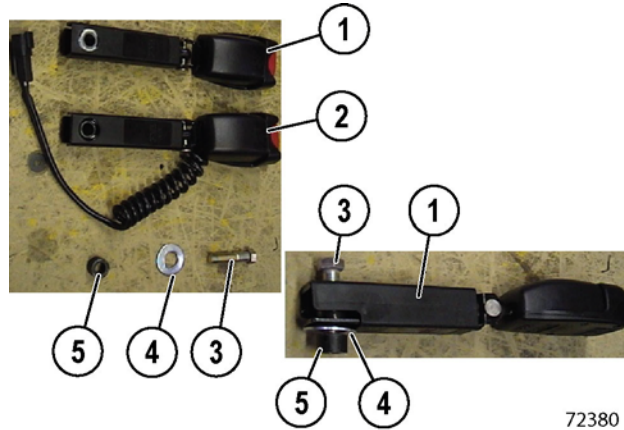

FIGURE 3-40.
10. Select new seat belt buckle (1 or 2, Figure 3-40), spacer (5), washer (4) and bolt (3). Align the bolt, washer, spacer and buckle in the correct order as shown. Add grease to bolt below its head.